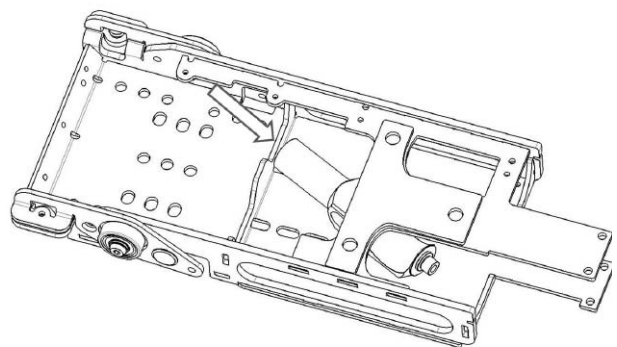

Fig. 12. Remove the seat tilt shaft.
13. Remove the seat tilt shaft. See fig. 12.